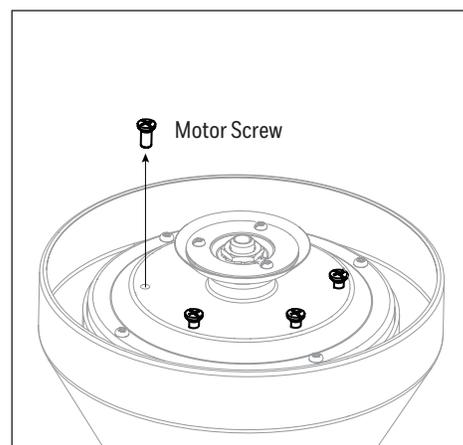

Figure 2.3
3. Remove the six motor screws from the underside of the motor assembly and save for blade arm installation (Figure 2.3).